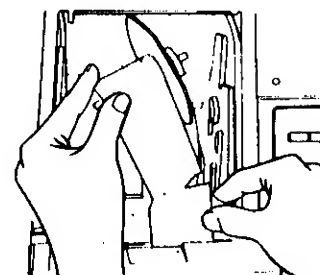

Fig. 7
- 3) Lift up the printed journal paper with the journal receiving shaft and tear the unprinted portion. Do not use scissors to cut the journal paper, so that the torn ends can be matched later, if necessary (see Fig. 7).